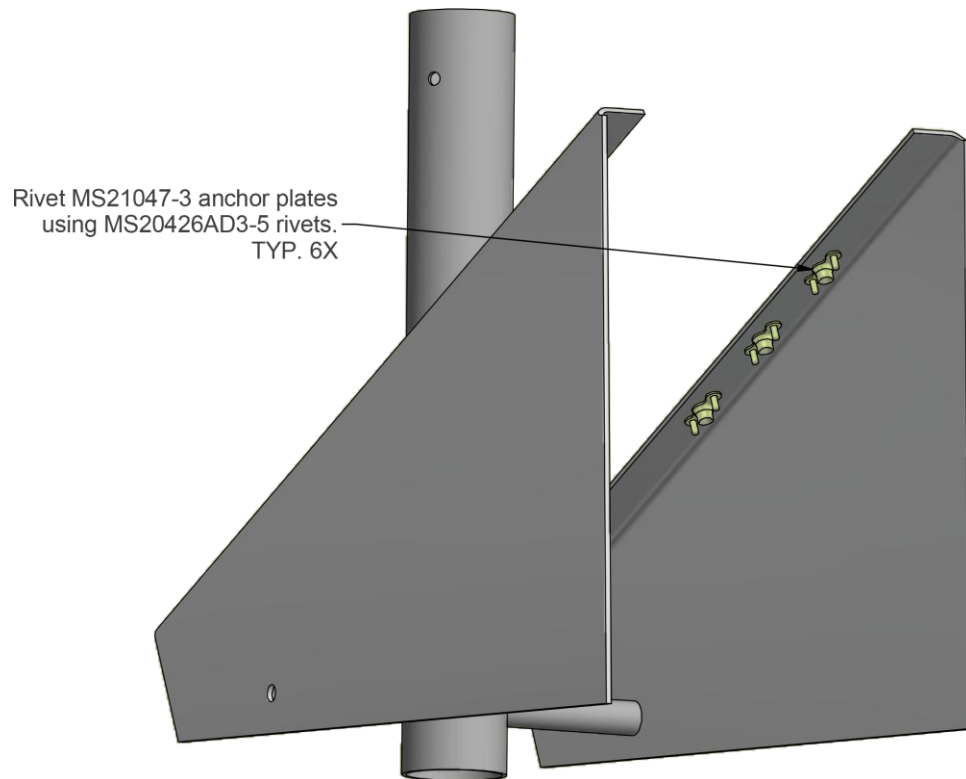

Figure 3-3
- 3.1. Rivet 6 ea. MS21047-3 anchor plates to the bottom side of the servo flanges using 12 ea. MS20426AD3-5 rivets as shown in Figure 3-3.